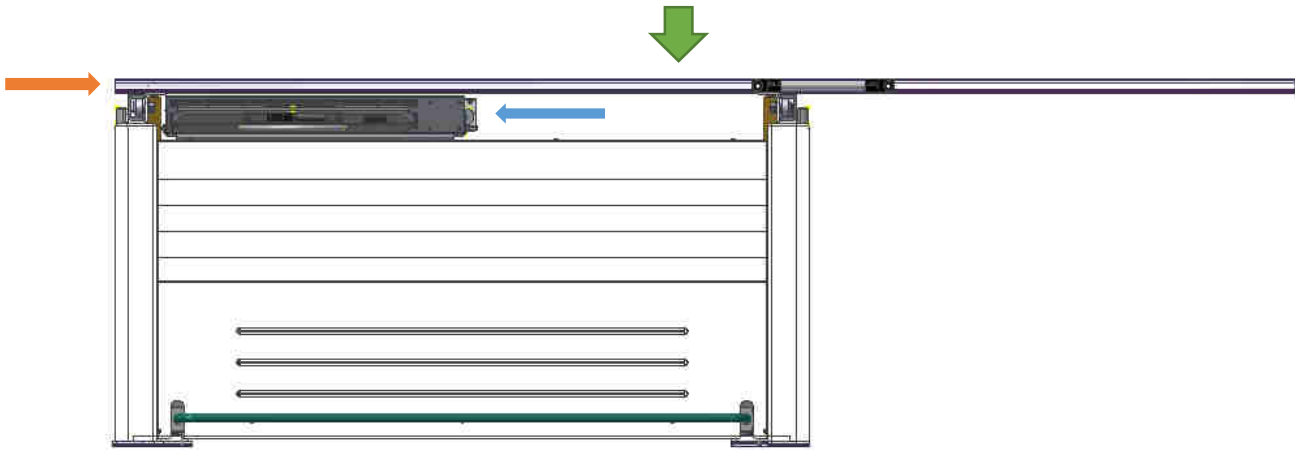

Figure 4-1
- Ascent and descent of the patient (see Fig. 4-1)